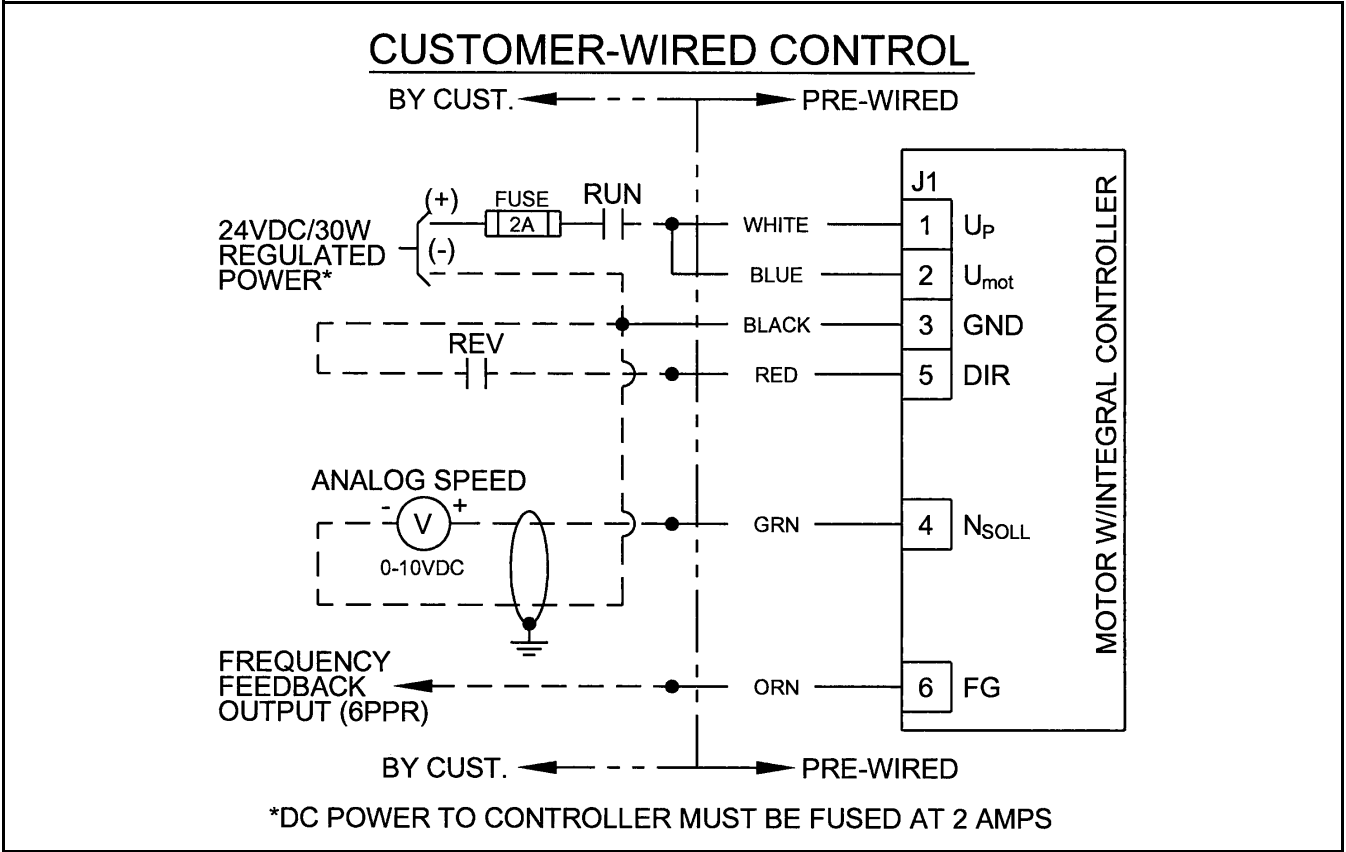

Figure 30
4. See Figure 30 for wiring layout.